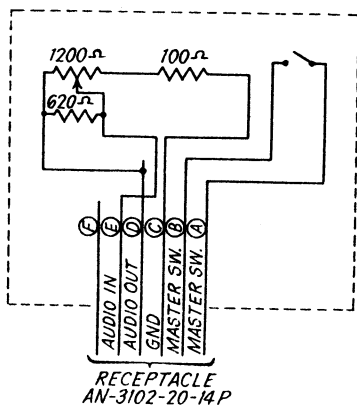

Figure 1—Modification of C-127/ARC Master Console Unit
4. The wiring in this unit should now be in accordance with BuAer drawing E-1270 (Fig. 1).